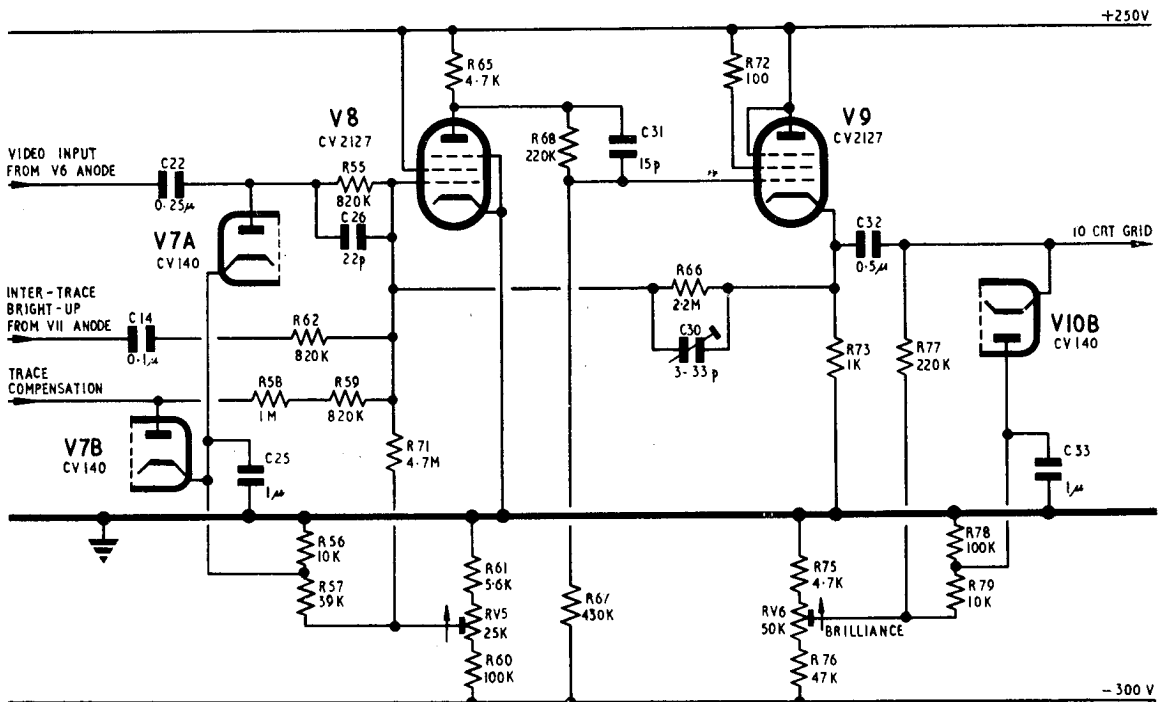

Fig. 9. Final mixing amplifier
29. A simplified circuit diagram of the final mixing amplifier is shown in fig. 9. The circuit includes two high-current pentodes V8 and V9 (CV2127), a double-diode V7 and part of another double-diode V10 (both CV140). V8 is a mixing amplifier, and V9 a cathode-follower.